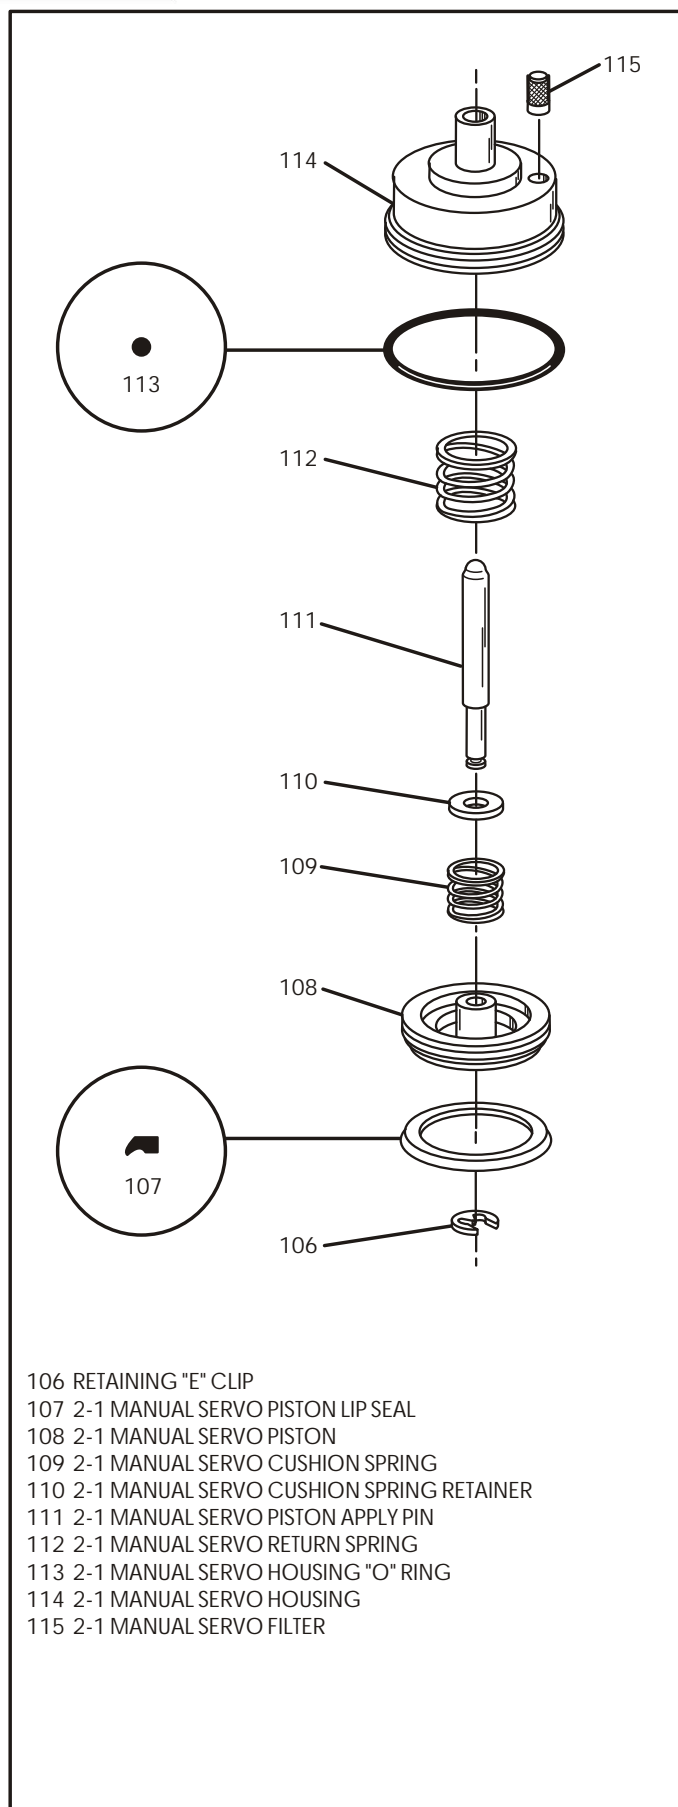

Figure 138
1. Inspect all components of the 2-1 manual servo assembly, using Figure 138 as a reference.
2. Install the cushion spring retainer (110) and the cushion spring onto the servo apply pin. Refer to Figure 138.
3. Install new lip seal onto the 2-1 manual servo piston, with the lip facing the direction shown in Figure 138.
4. Install the piston assembly onto the servo apply pin and install the "E" clip onto the apply pin as shown in Figure 138.
5. Install new "O" ring seal (113) onto the servo housing and lubricate with a light coating of petrolatum (See Figure 138).
6. Install servo return spring (112) into the servo housing (See Figure 138).
7. Insert the 2-1 manual servo piston assembly through the return spring and into the manual servo housing (See Figure 138).
8. Install the manual servo filter (115) into servo housing, as shown in Figure 138.